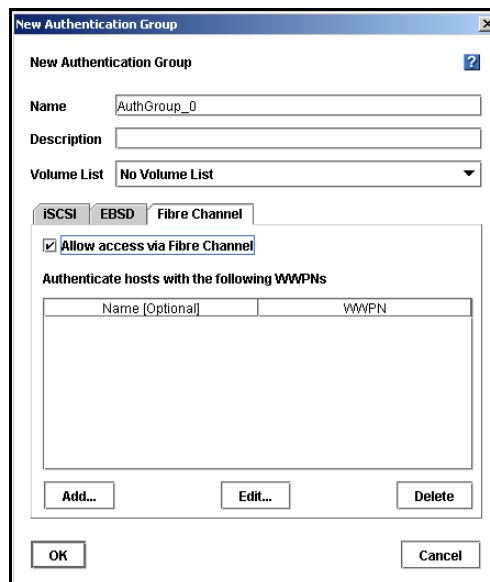

Figure 197. Configuring Fibre Channel for New Authentication Group
1. On the Fibre Channel tab, shown in Figure 197, select the check box to allow access via Fibre Channel.